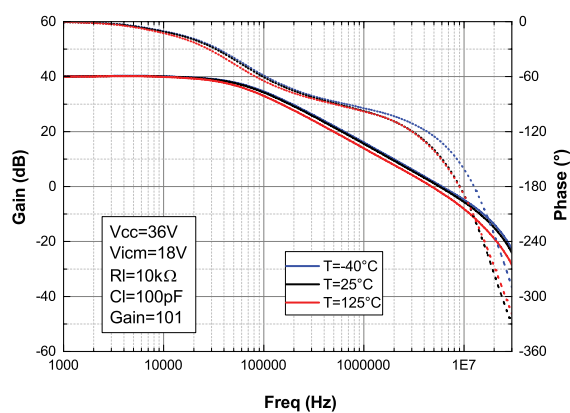
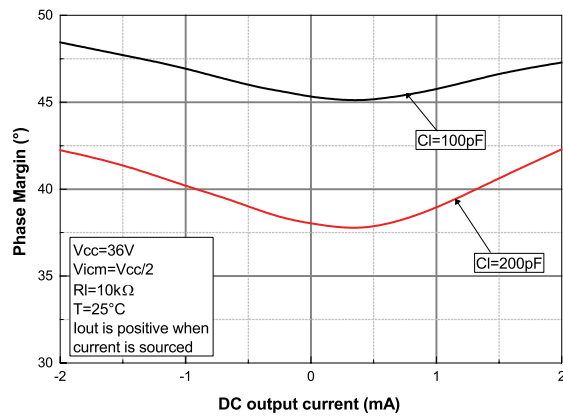

Figure 24. Phase margin vs. output current at  $V_{CC} = 5\text{ V}$
Figure 26. Phase margin vs. capacitive load
4. For higher capacitive values see Figure 24. Phase margin vs. output current at  $V_{CC} = 5\text{ V}$ , Figure 26. Phase margin vs. capacitive load